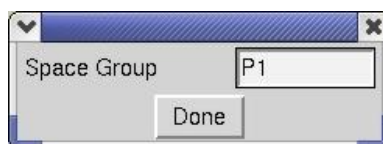

Figure 8. The Space Group box
- Note that unless you fill in the space group name box (Figure 8) manually, the program will import it from *Scalepack* (marked on a blue background under the **Scale** tab), which means it will be one of the 65 space groups available for protein crystals.